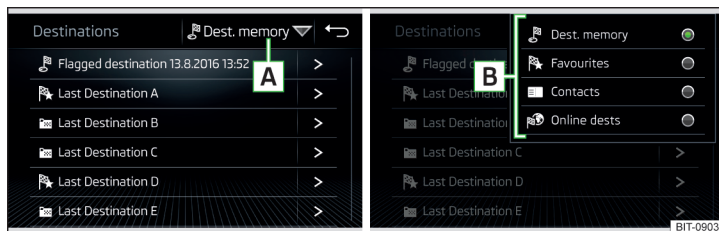

Fig. 234 Select list of stored destinations / categories of saved destinations
- › Tap on function surface  » Fig. 234 and select one of the following categories of saved destinations  » Fig. 234.